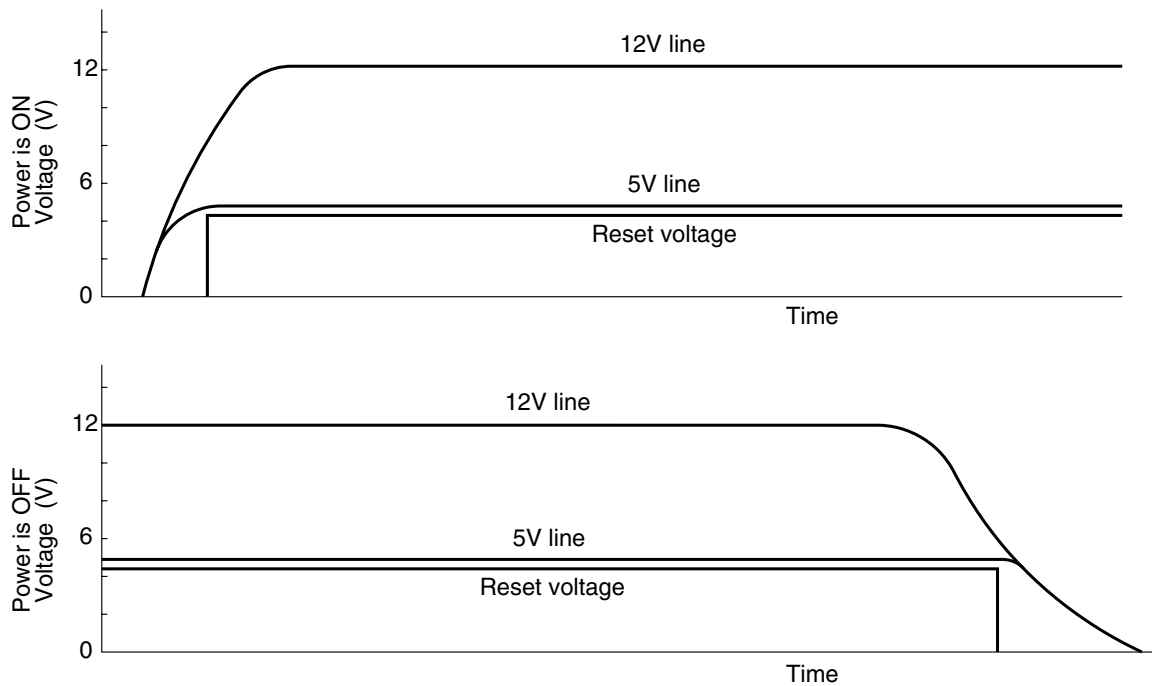

Fig. 9-2
- Fig. 9-1 shows the reset circuit and Fig. 9-2 shows waveform at each point when power is turned on and off.
- When power is turned on, 12V line and 5V line voltages rise and 12V line voltage reaches 10.9V and reset voltage input to pin ④ of microcomputer is set to Hi.